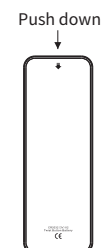

Figure 30
1. Turn the remote over and slide the battery cover open (Figure 30).